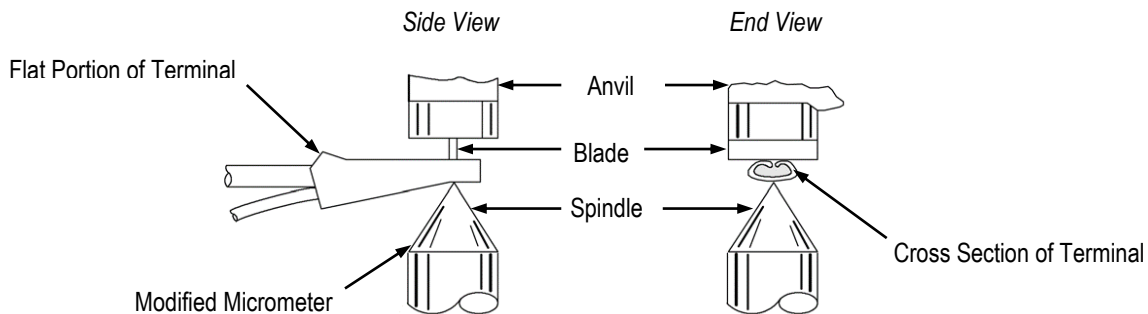

Figure 16
1. Inspect the termination for conformance to the requirements given in Figure 16, Detail A.
- Using a crimp height micrometer, measure the crimp height of the termination as shown in Figure 16, Detail B. The crimp height must be within  $\pm 0.08$  mm [ $\pm .003$  in.] of the measurement specified for the type of terminal and wire size being used.